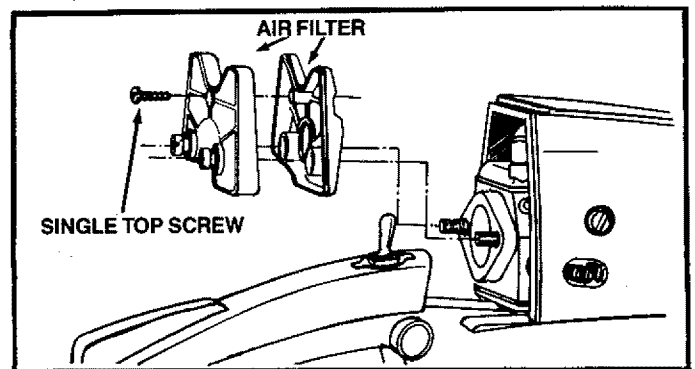

Figure 42
4. Remove the air filter carefully, Figure 42.